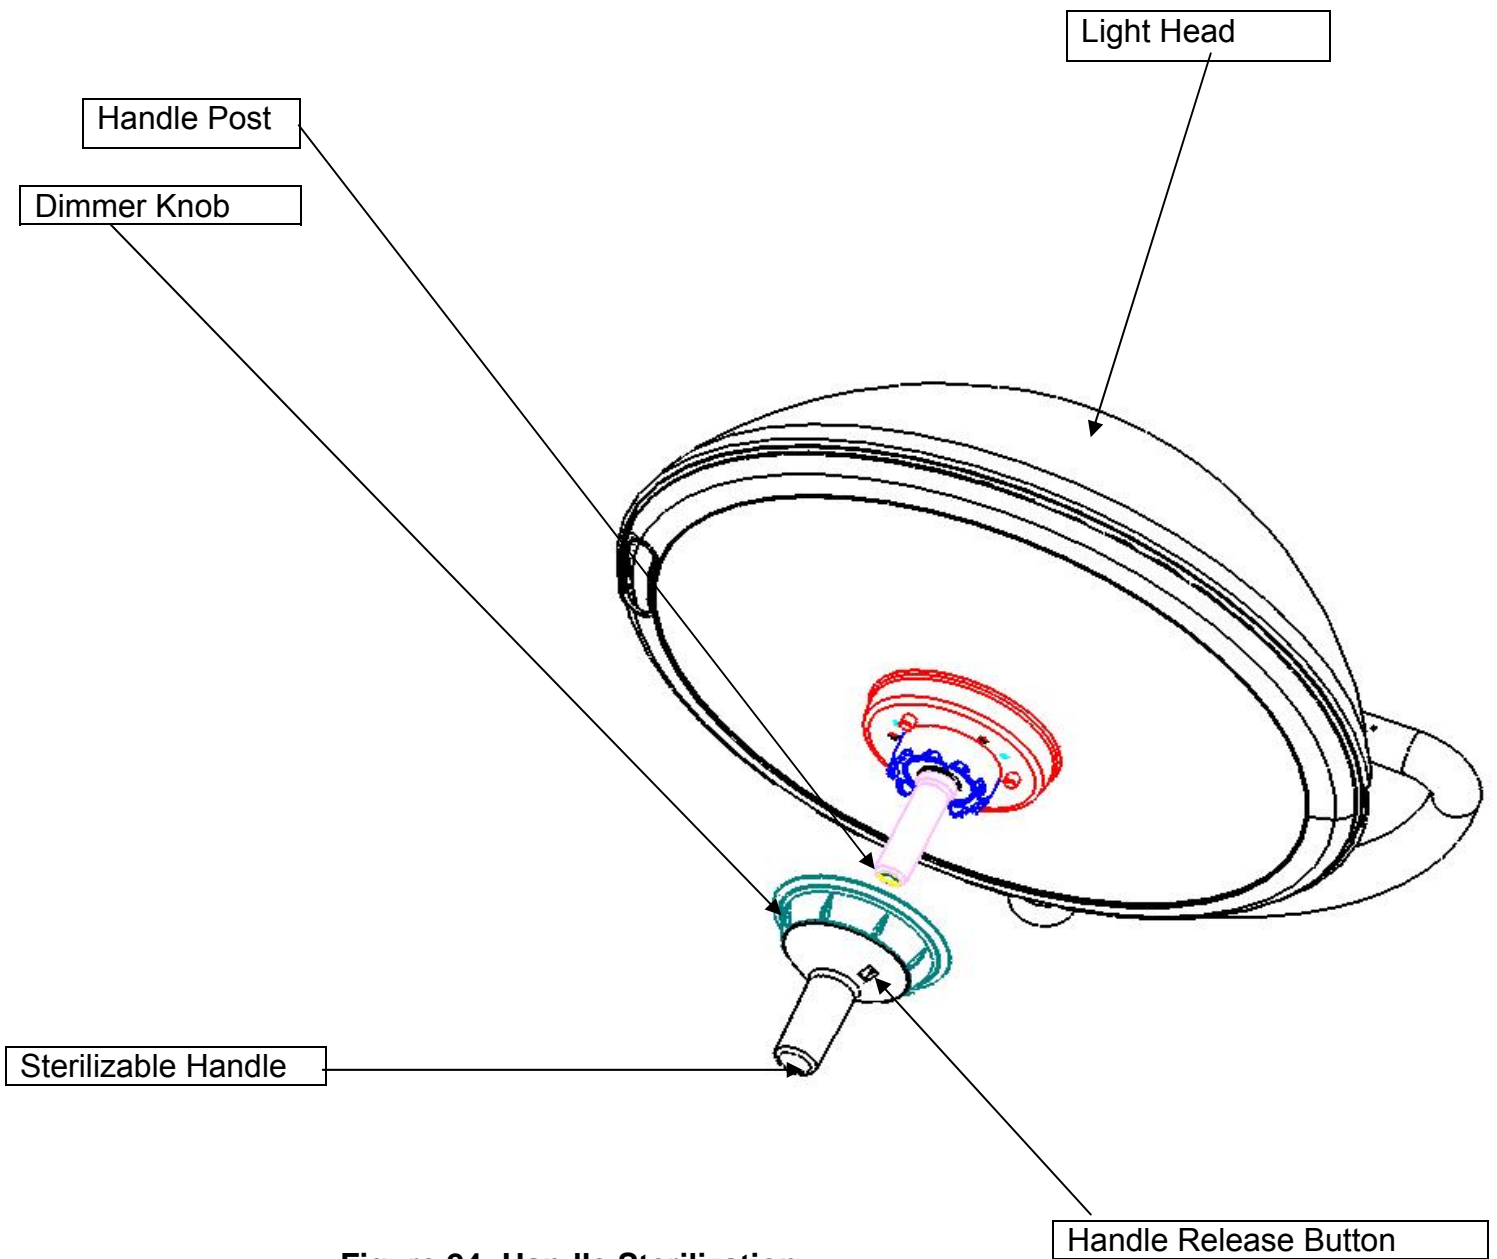

Figure 24: Handle Sterilization
- To dim the light intensity, rotate the mechanical dimmer's knob (see Figure 24) clockwise to get from 100% to 50% of total luminance.
- Remove sterilizable handle by pressing the button near the base of the handle and pulling the handle off the handle post. (see Figure 24)